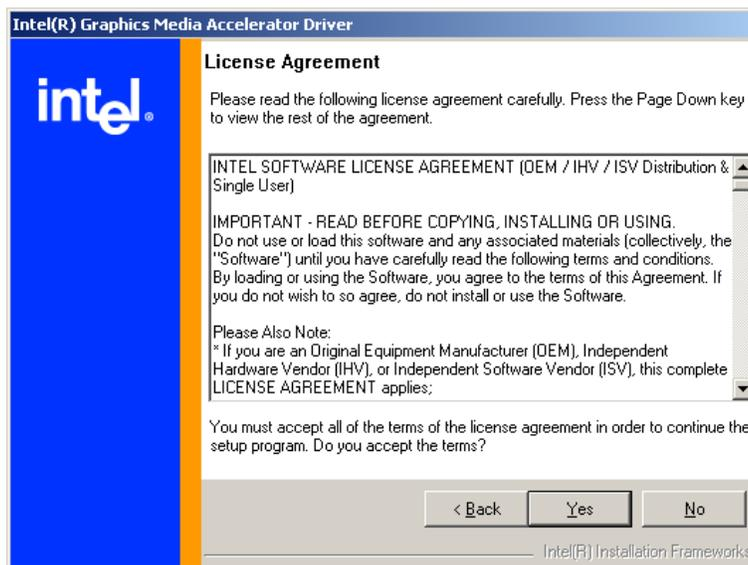

Figure 6-16: Intel® Graphics Media Accelerator Driver License Agreement
Step 6: Click **NEXT** and a license agreement appears (**Figure 6-16**).